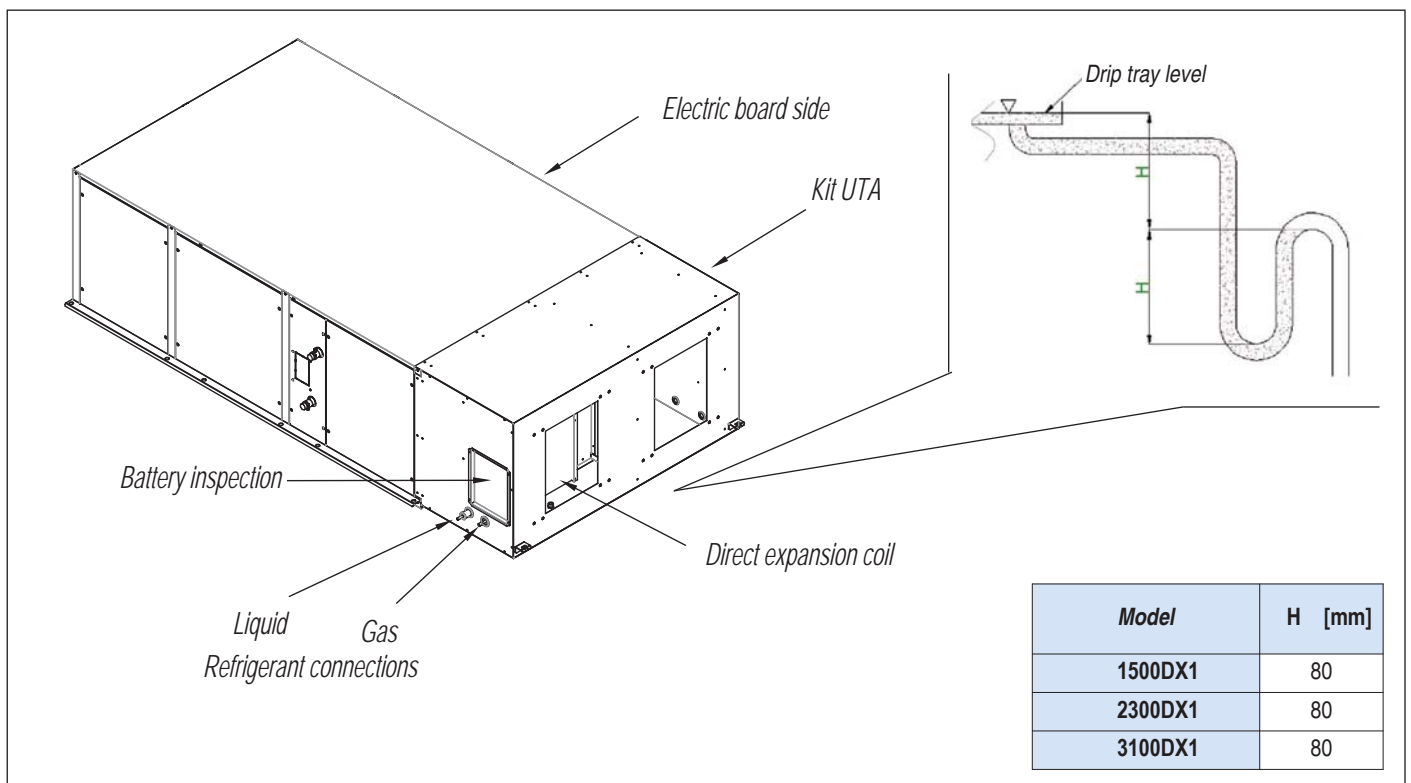

fig. 7
- The dimensioning of the siphons in the case of depressurised tray, must be done according to the following (fig. 7) and table.